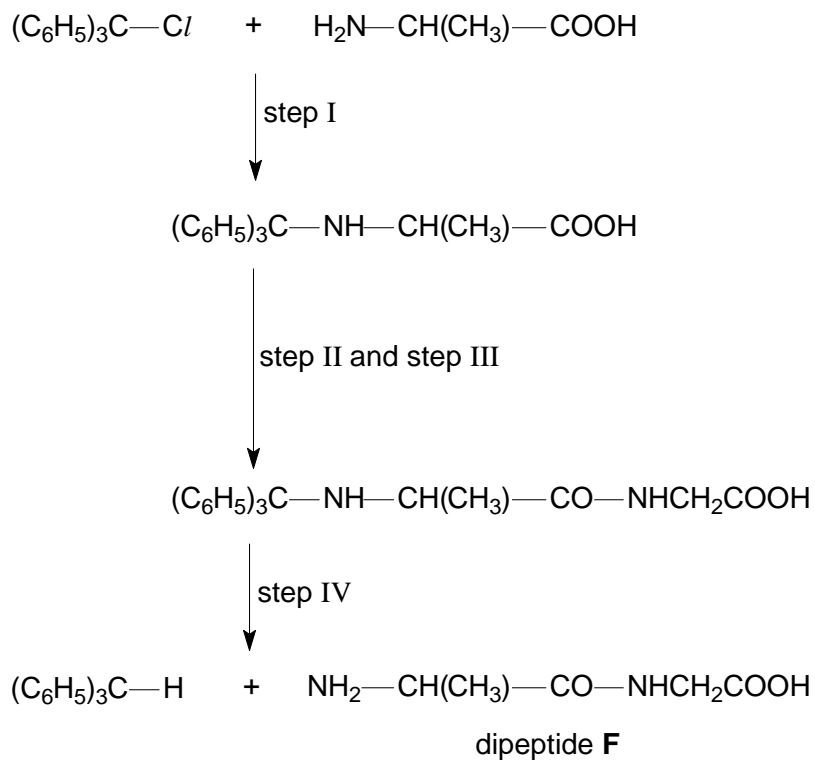

Fig. 4.1
- (c) A dipeptide **F** is synthesised from two amino acids as shown in Fig. 4.1.
(iv) Without step I, a mixture of two different dipeptides will be formed at the end of the synthesis in Fig. 4.1. Suggest the identity of the other dipeptide formed.